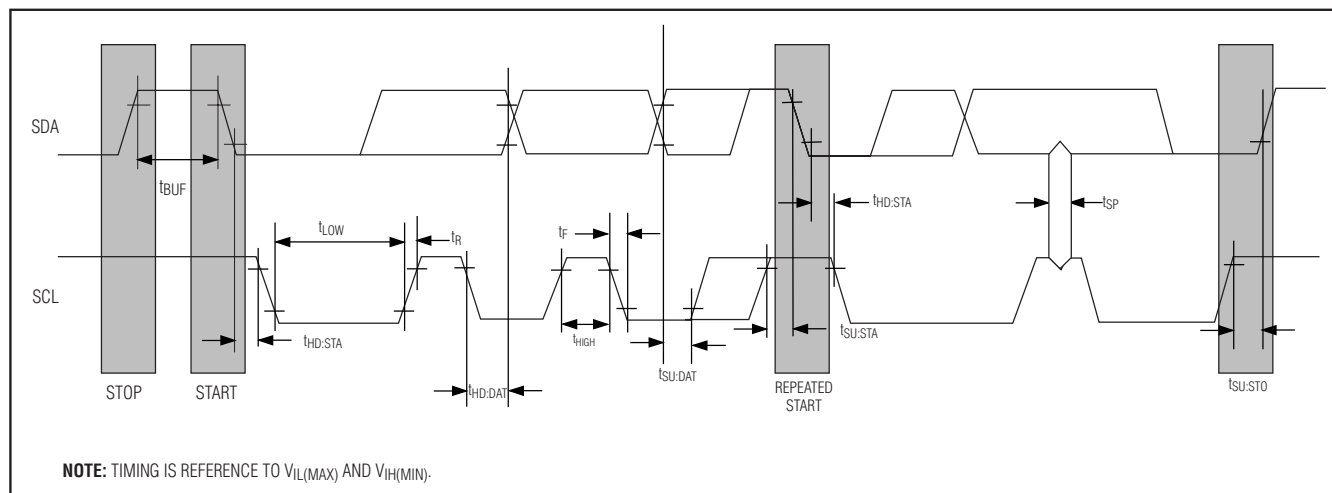

Figure 3. 2-Wire Timing Diagram
### AC ELECTRICAL CHARACTERISTICS (Figure 3)
**START Condition:** A START condition is generated by the master to initiate a new data transfer with a slave. Transitioning SDA from high to low while SCL remains high generates a START condition. See Figure 3 for applicable timing.
**STOP Condition:** A STOP condition is generated by the master to end a data transfer with a slave. Transitioning SDA from low to high while SCL remains high generates a STOP condition. See Figure 3 for applicable timing.
**Bit Write:** Transitions of SDA must occur during the low state of SCL. The data on SDA must remain valid and unchanged during the entire high pulse of SCL plus the setup and hold time requirements (see Figure 3). Data is shifted into the device during the rising edge of the SCL.
**Bit Read:** At the end a write operation, the master must release the SDA bus line for the proper amount of setup time (see Figure 3) before the next rising edge of SCL during a bit read. The device shifts out each bit of data on SDA at the falling edge of the previous SCL pulse and the data bit is valid at the rising edge of the current SCL pulse. Remember that the master generates all SCL clock pulses including when it is reading bits from the slave.
**Acknowledgement (ACK):** An Acknowledgement (ACK) is always the 9th bit transmitted during a byte transfer. The device receiving data (the master during a read or the slave during a write operation) performs an ACK by transmitting a zero during the 9th bit. For timing, see Figure 3. An ACK is the acknowledgement that the device is properly receiving data.